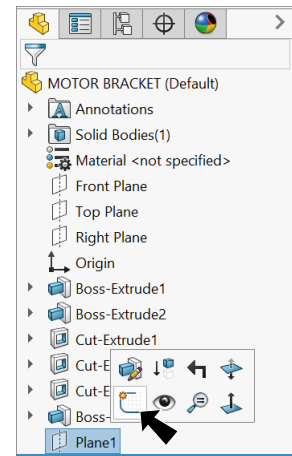

Fig. 48
Step 2. Click **Plane1**  in the Feature Manager and click **Sketch**  on the context toolbar, **Fig. 48**.